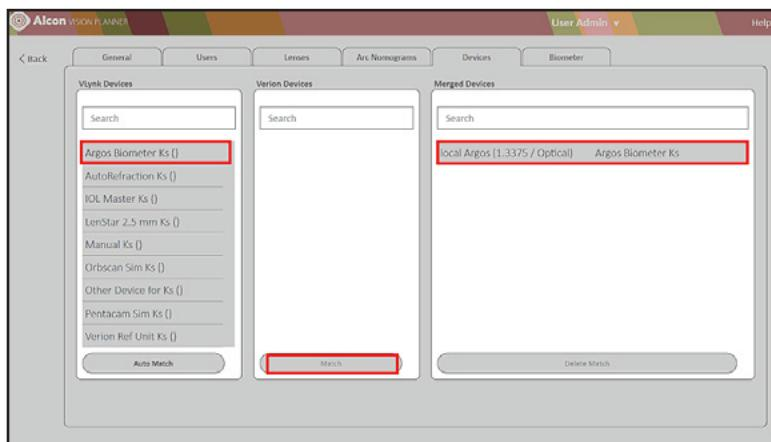

Figure 2-30 Vision Planner – Device Mapping
- 11.10 Match the Verion™ device to **Argos Biometer Ks ()** as shown in **Figure 2-30**.